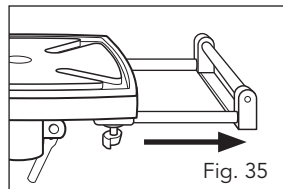

Fig. 35
Slacken the thumb screws (23) to extend the roller support base (3). Retighten when the roller support base is in the desired position (Fig. 35).